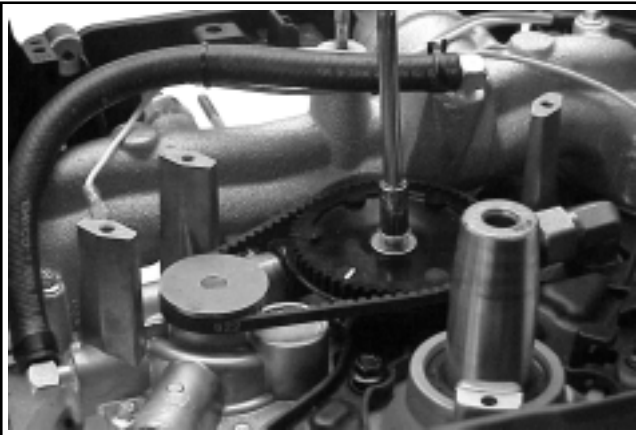

**Figure 9-40. Removing B+ Charging Lead from Connector.**
3. Unplug the connector from the rectifier-regulator. Using a small screwdriver or other narrow flat blade, bend down the locking tang on the center terminal and pull the B+ charging lead out of the connector. See Figure 9-40.